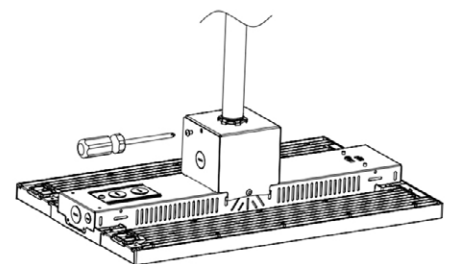

Figure 6
4. Lock side brackets with screw driver (See Fig. 6)